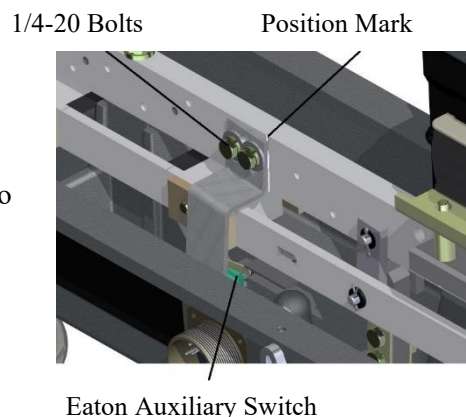

Figure 12
2. Slightly loosen the two 1/4-20 bolts, move the bracket to the desired position, and retighten screws as shown in Figure 12.